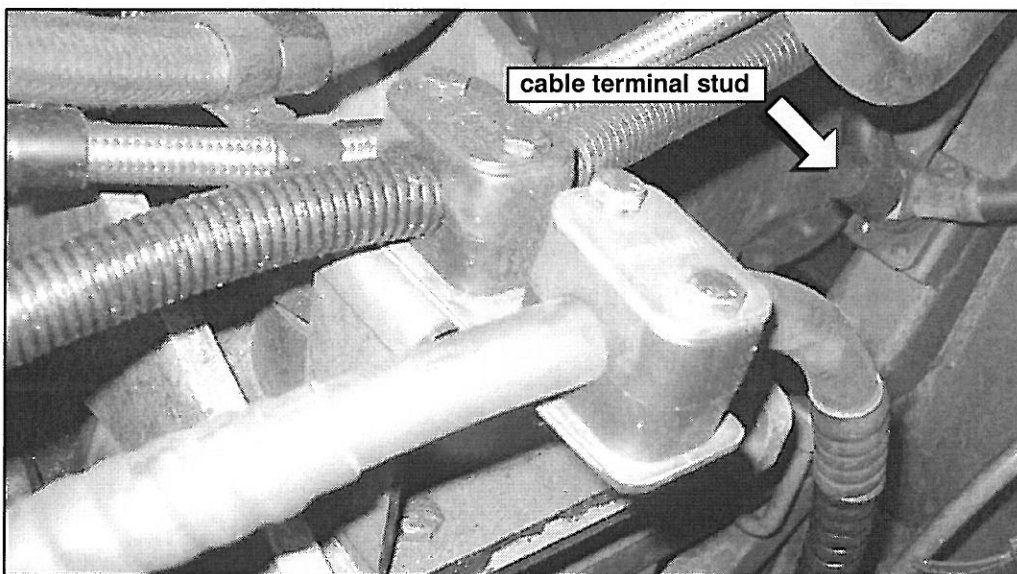
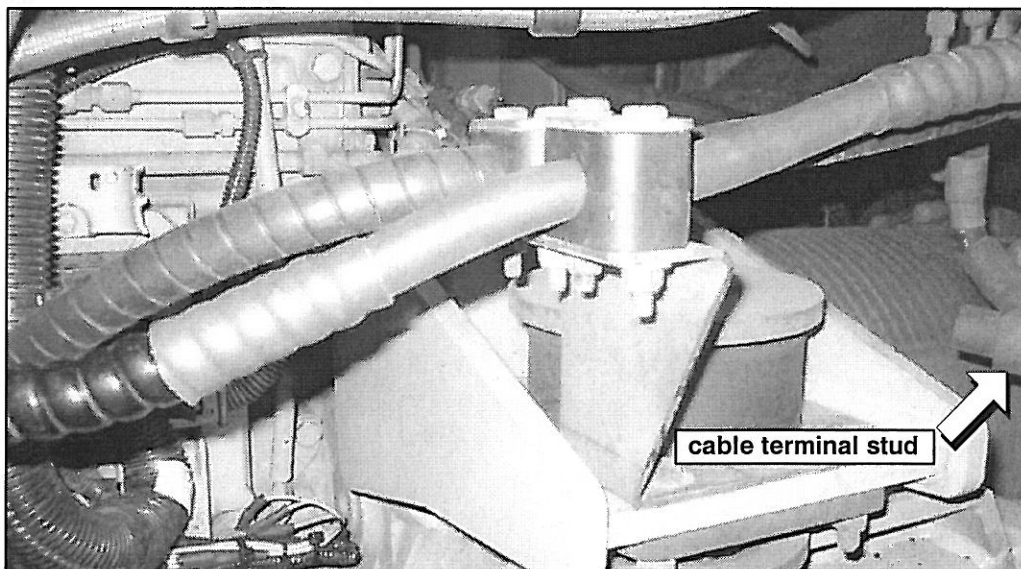

Figure 1. Pre-2007 C13 engine configuration.
Figure 2. 2007 EPA C13 engine configuration.
5. Locate the cable terminal stud on the forward wall of the curbside, rear side service compartment (refer to Figure 1 or Figure 2). Remove and retain the nut. Remove the alternator cable from the cable terminal stud.